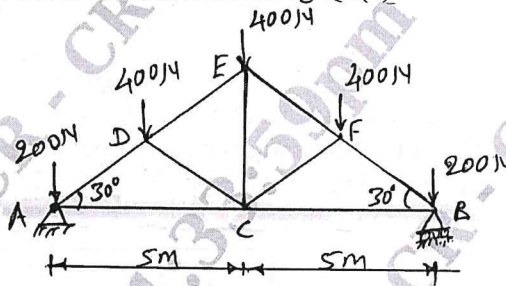

Fig Q2(c)
- c. Find the forces in all members of truss shown in Fig Q2(c).